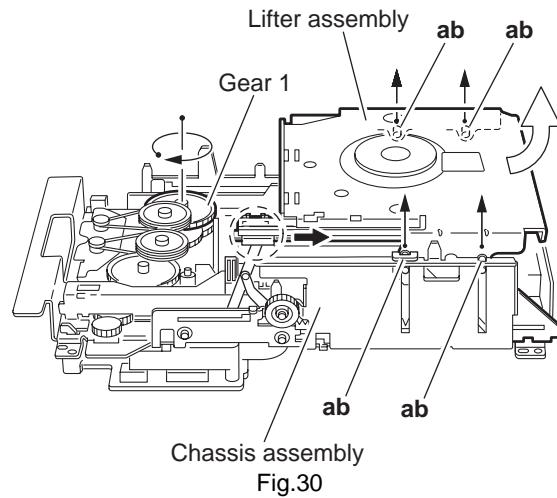

Fig.30
- (5) Turn the gear 1 clockwise again to move the lifter assembly upward. (See Fig.30.)
- (6) Remove the lifter assembly from the DVD changer mechanism assembly upward at the positions ab where the four pins on the both sides of the lifter assembly fit to the notches of the chassis assembly. (See Fig.30.)